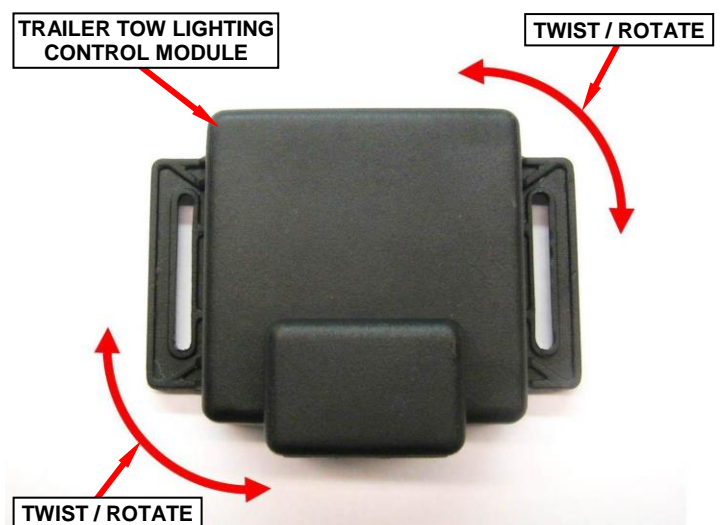

Figure 20 – Twist / Rotate Module To Release
23. Use hands ONLY to twist/rotate the trailer tow lighting control module both clockwise and counter-clockwise to separate the foam adhesive patch securing the module to the body panel. Remove and discard the trailer tow lighting control module (Figure 20).